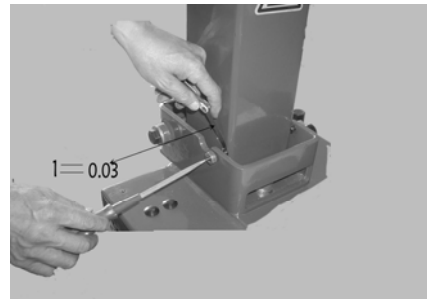

Fig 14A
3.2.5.3 Adjust the set screw by the two sides of column and release the nuts by the two sides. Adjust the clearance between the heads of the screws and the side panel of the column to be 0.03mm(Fig 14A) to lock the nuts.